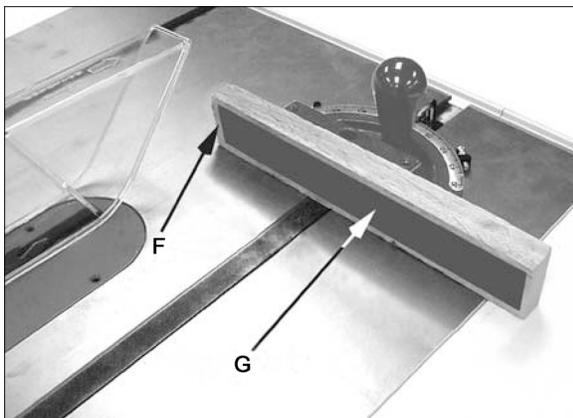

Figure 40
To augment the effectiveness of the miter gauge in crosscutting, some users mount an auxiliary wooden extension face (F, Figure 40) with a glued-on strip of sandpaper (G) to the miter gauge.